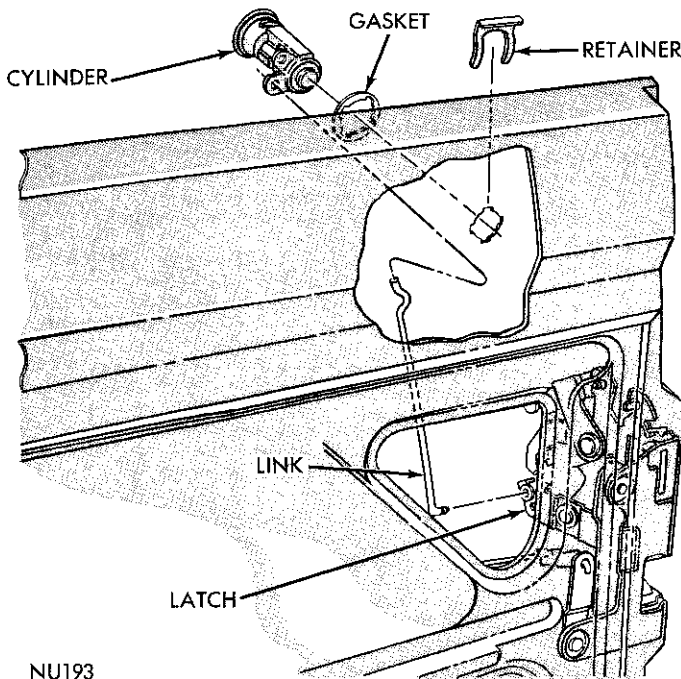

Fig. 26—Lock Cylinder
- (1) With window in up position, disconnect cylinder link (Fig. 26) from clip on lock lever and from cylinder.
- (2) Remove retainer from cylinder body and cylinder from door.